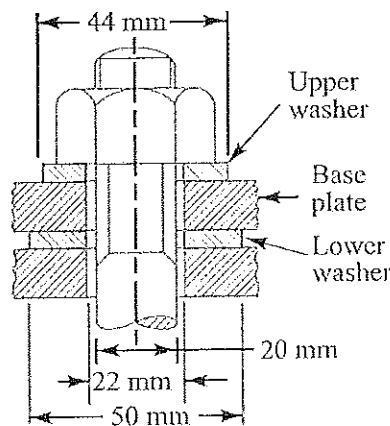

Fig.Q6
- b. A square shaped base plate is fixed at its four corners using nuts and bolts, which one fixation is shown in Fig.Q6. The bolt specification is M20. The plate rests on 4 washers of 22mm internal diameter and 50mm external diameter. Upper washers located between the nut and the base plate if of 22mm internal diameter and 44mm external diameter. With the self-weight total load on the base plate is 120kN.